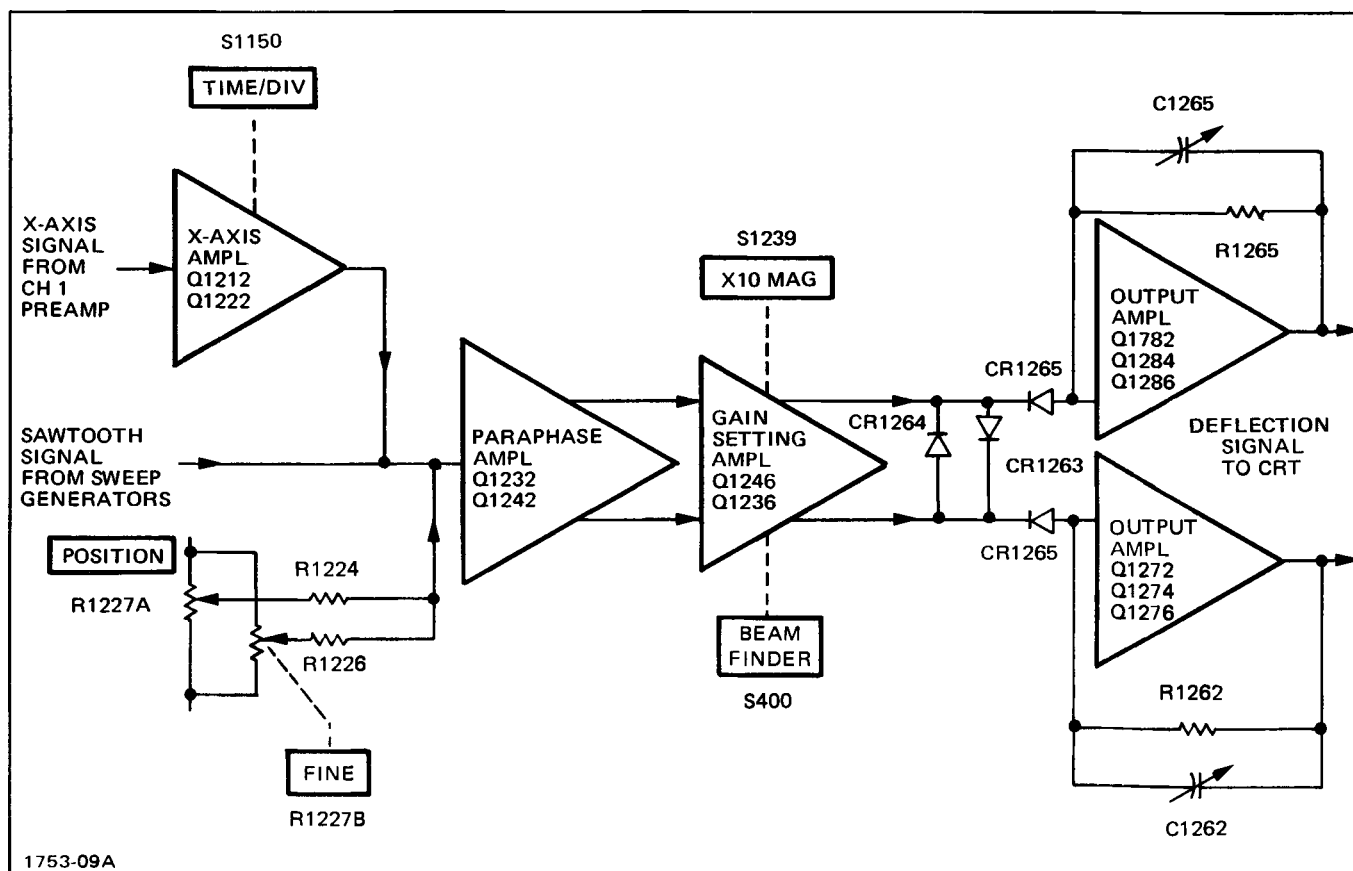

Fig. 3-6. Horizontal Amplifier Detailed Block Diagram.
**General.** The Horizontal Amplifier circuit provides the output signals to the crt horizontal deflection plates. The signal applied to the input of the Horizontal Amplifier is determined by the TIME/DIV switch. The signal can be a sawtooth waveform generated within the instrument, or some external signal applied to the CH 1 or X input connector (X-Y mode of operation). The Horizontal Amplifier also contains the X10 magnifier, horizontal positioning, and some beam finder circuitry. Fig. 3-6 shows a detailed block diagram of the Horizontal Amplifier circuit. A schematic of this circuit is shown on diagram 9 at the rear of this manual.